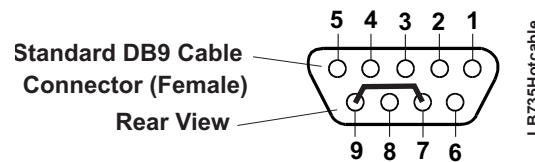

Figure 3-3. Hot Cable Jumper
To convert a standard serial cable to a Hot Cable, specific pins must be shorted together at the Serial port connector or at the DB9 cable connector. For example, short the RTS (7) and RI (9) at the rear of the respective DB9 cable connector as shown in Figure 3-3.